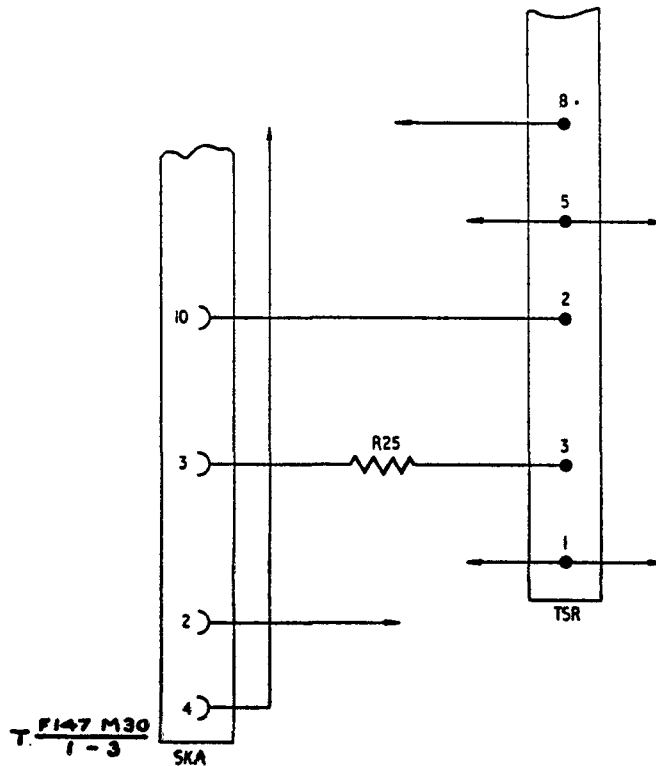

Fig 3 - Part of front panel circuit, after modification
- d. Record this modification by painting a diagonal line through, without obliterating, the figure 3 (three) on the modification record plate on board 18 with red paint.
- a. Page 1009, Fig 2504: Add the additional resistor R25 as illustrated in Fig 3 of this instruction.